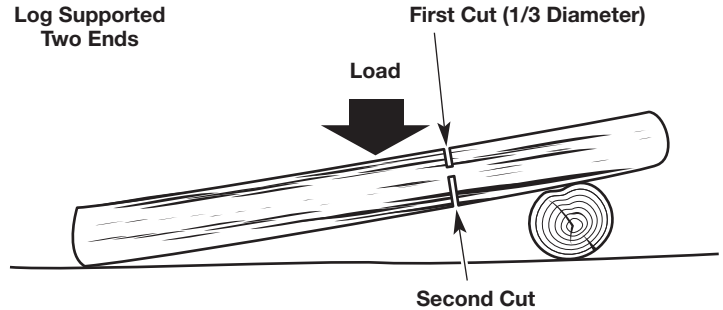

Fig. 18
- If the log is supported on two ends (Fig. 18), make the first cut from above (overbucking). Refer to *Overbucking*.